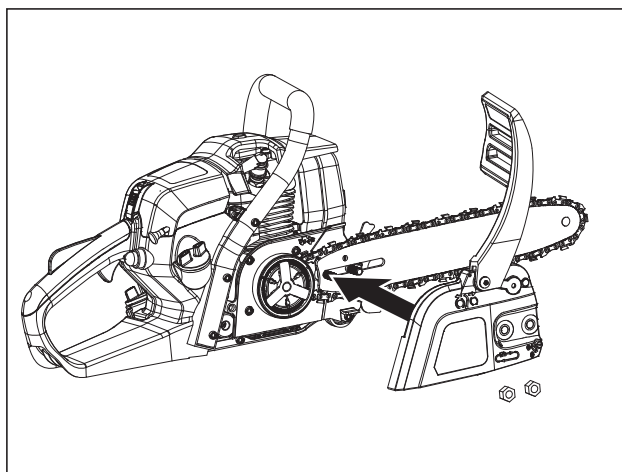

Fig. 34
6. Align the guide bar and saw chain assembly with the drive sprocket and bolt. Lay the saw chain around the drive sprocket and then lower the guide bar to install it to the bolt (Fig. 34).